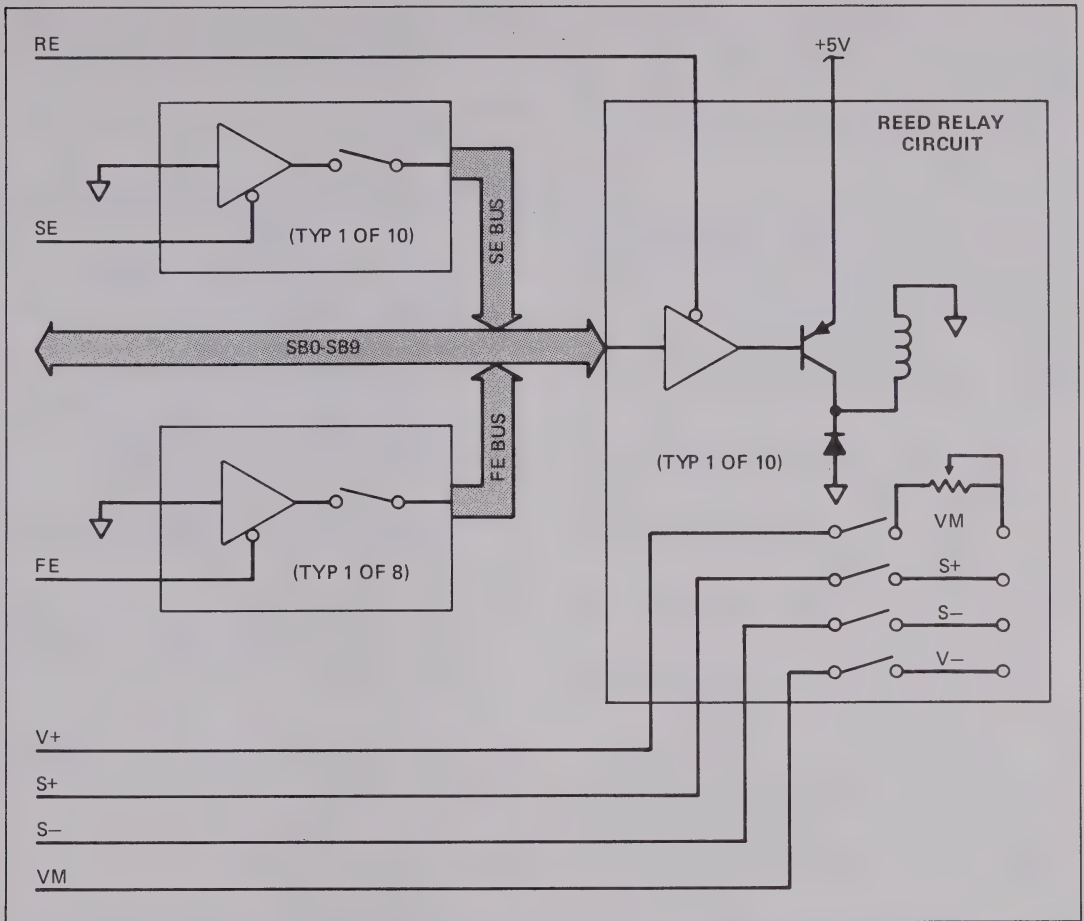

Figure 603-4. RTD/Ohms Scanner Card Block Diagram
603-19. Although the purpose of the skip enable circuit and the function enable circuit is different, the two circuits are identical in operation. The functional block diagram given in Figure 603-4 is typical of both circuits. Skip enable circuitry consists of 10 buffers, 10 switch segments, and 10 skip enable lines from the switches to the Selector Bus (SB) lines from the microcomputer. Upon initialization, the microcomputer sets Skip Enable (SE) true. Through the buffers, any switch in the closed position supplies a ground-level signal on the SB line to which it is connected. The microcomputer reads the SB lines while the SE signal is true, and it stores the information received. Those lines that were at a low level when the microcomputer reads them will be skipped during each scan cycle unless the skip condition is modified through front panel operator inputs. Operator inputs through the front panel effect only the microcomputer; circuitry and conditions on the RTD/Ohms Scanner Card are not effected by front panel inputs.